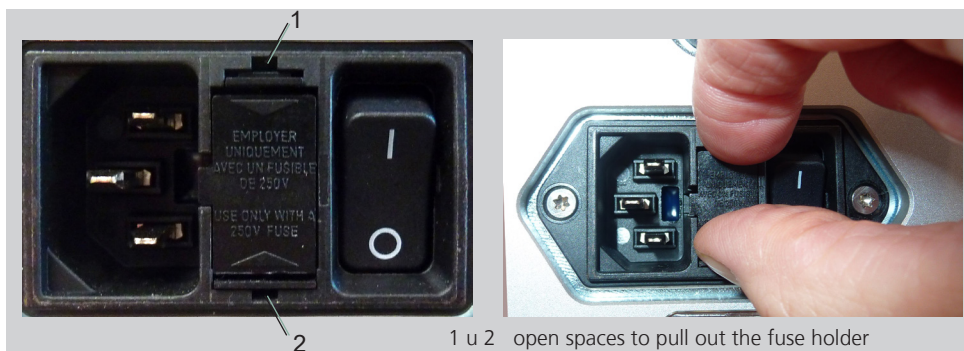

Fig. 5-1 Mains connector, fuse holder, mains switch
- Press the two tabs from the open spaces (Fig. 5-1/1 and 2) of the fuse holder inwards and pull out the fuse holder of the housing.